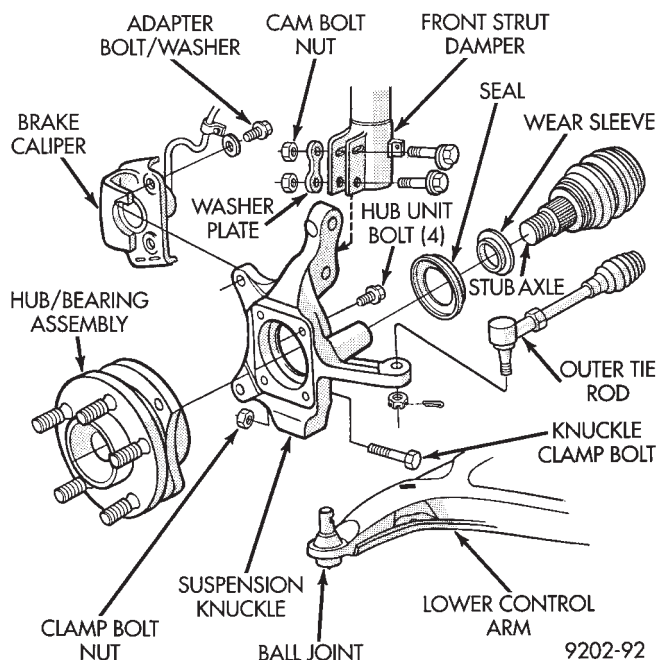
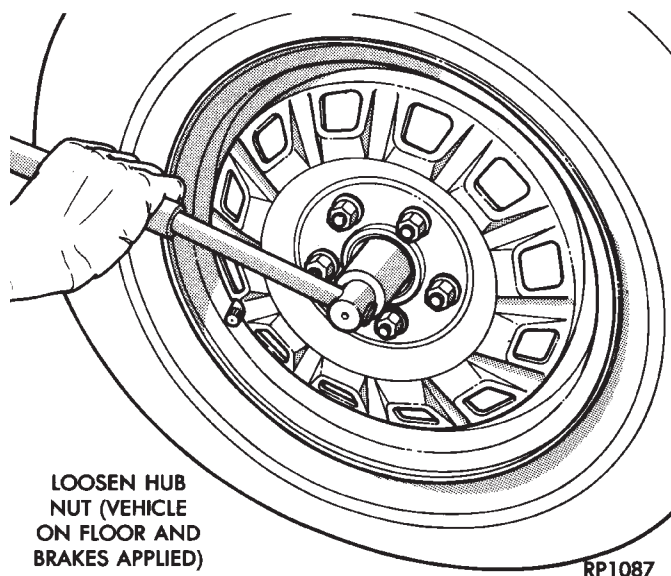
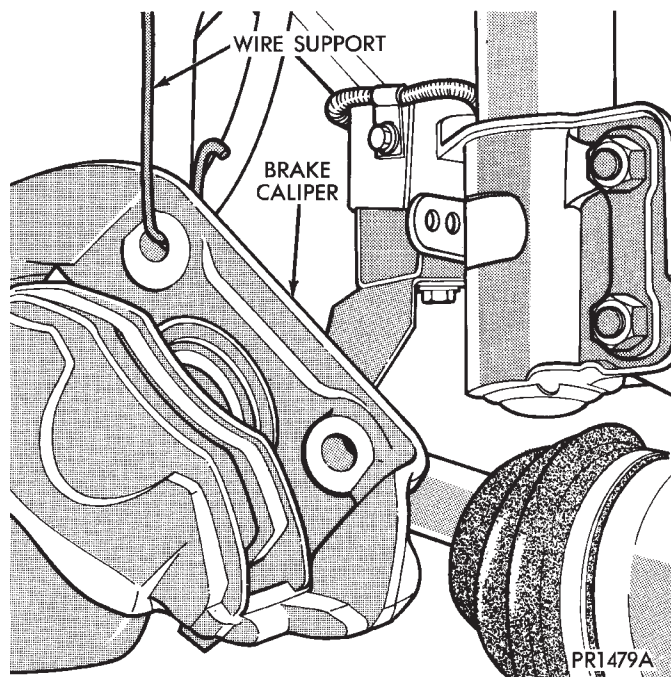

Fig. 1 Front Knuckle Assembly (Typical)
Fig. 3 Loosen Hub Nut
Fig. 4 Supporting Brake Caliper
(2) Loosen hub nut while the vehicle is on the floor with the brakes applied (Fig. 3). **The hub and drive-shaft are splined together through the knuckle (bearing) and retained by the hub nut.**
(3) Raise and support the vehicle. See Hoisting in Lubrication and Maintenance, Group 0.
(4) Remove the wheel lug nuts, front tire and wheel assembly and hub nut and washer.
(5) Remove the brake caliper adapter to steering knuckle attaching bolts and washers (Fig. 1). Remove the brake caliper and adapter from the steering knuckle and braking disc. Support brake caliper/adapter assembly using a wire hook and not by hydraulic hose (Fig. 4).